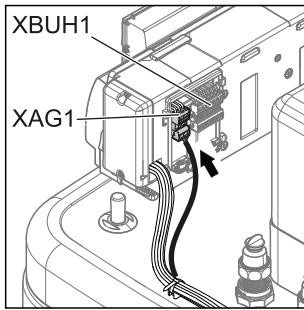
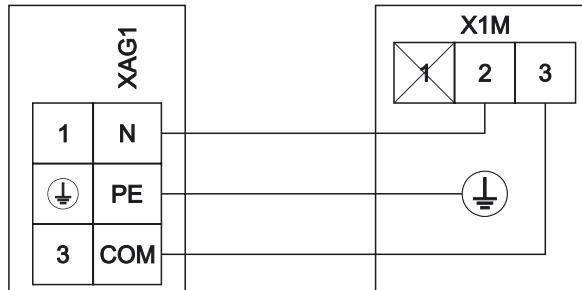

Fig. 4-28 Make the electrical connections to the rear of the housing (see section 4.5.1).
Fig. 4-30 Connection of exterior heat pump unit
- Connect the exterior heat pump unit to the terminal strip XAG1 (see fig. 4-28, fig. 4-30).